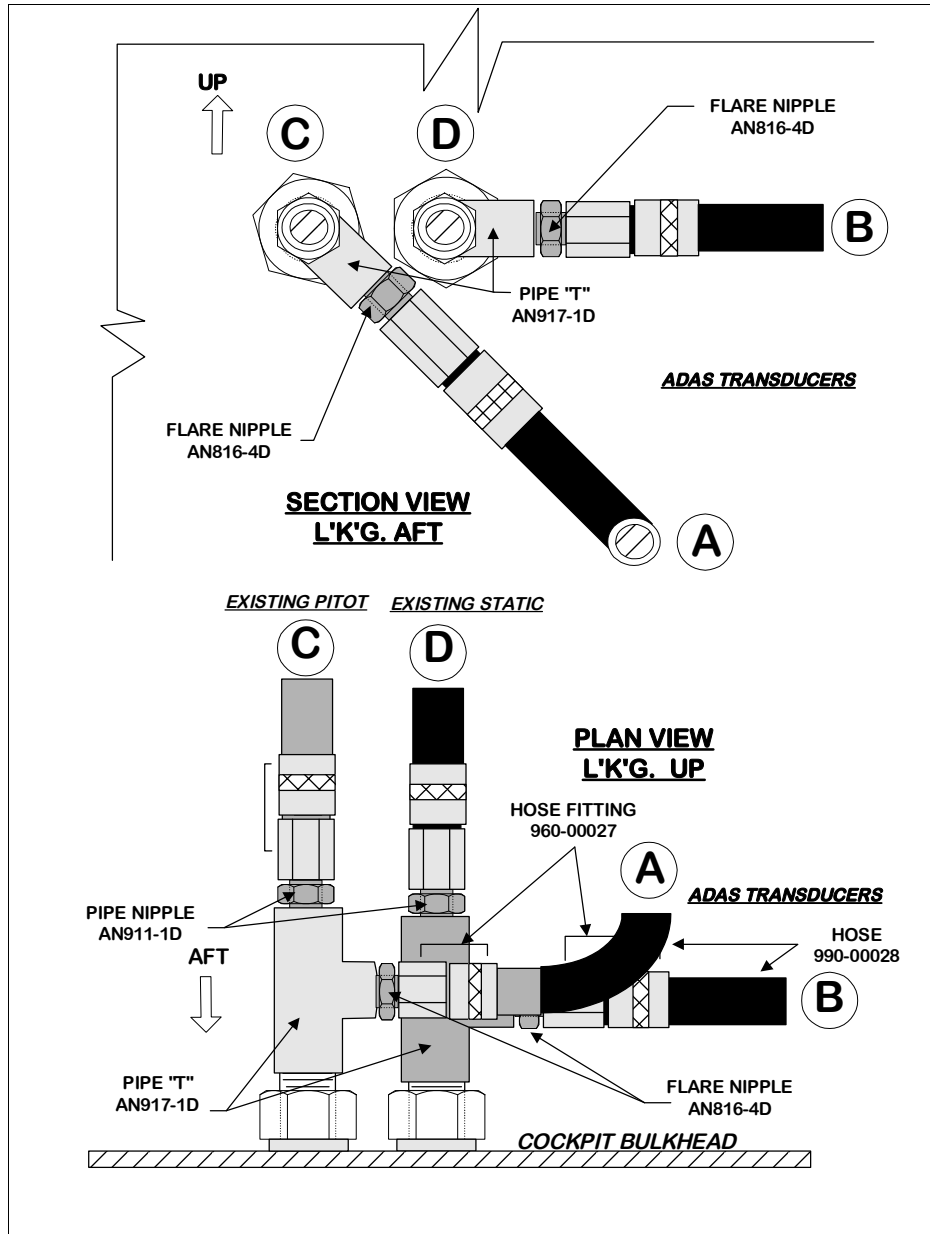

Figure C- 10: Pitot / Static Bulkhead Pressure Connections (Non-1900D)
- 060 Install "T" fittings (AN917-1D) onto the bulkhead pitot and static pressure ports (Figure C- 10). These ports are located in the upper section of the avionics compartment on the co-pilot's side.